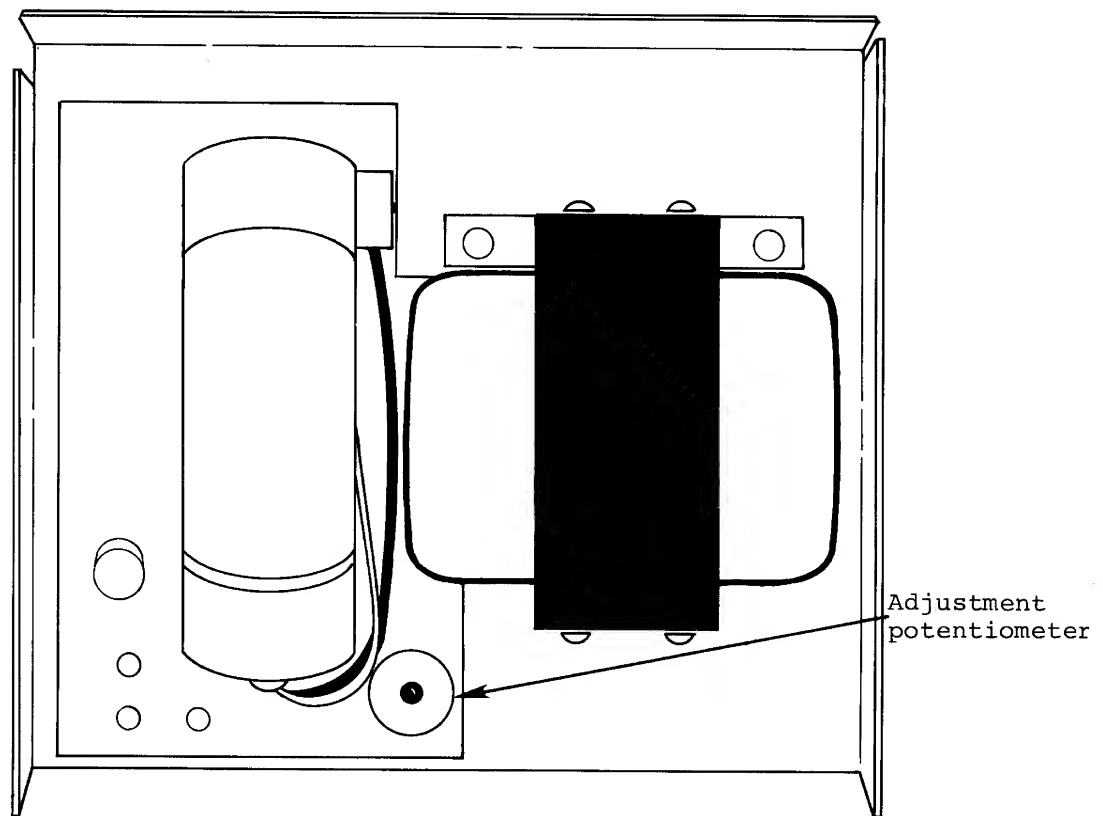

Figure 3: Power Supply Adjustments
2. Adjust the power supply potentiometer for $+5.0 \pm .1$ VDC (see Figure 3).
(see Figure 3) | 4 Fuse |